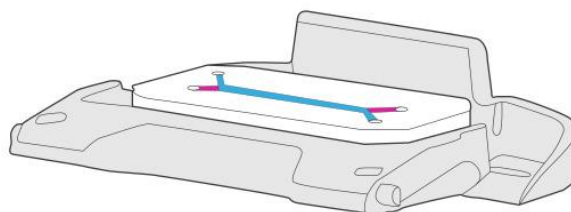

Figure 3: View of chip with no excess ER-1 solution on surface
- Remove all excess ER-1 solution from the surface of the chip by gentle aspiration. Be sure to only remove ER-1 solution from the chip surface — do not aspirate ER-1 from the channels. (See Figure. 3 below.)